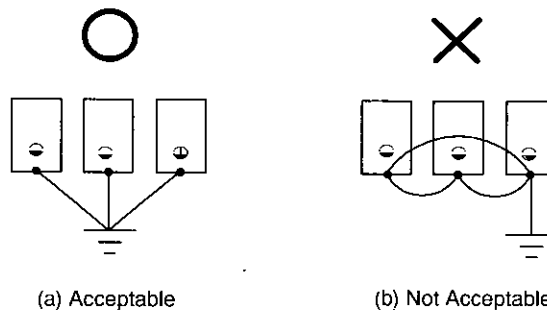
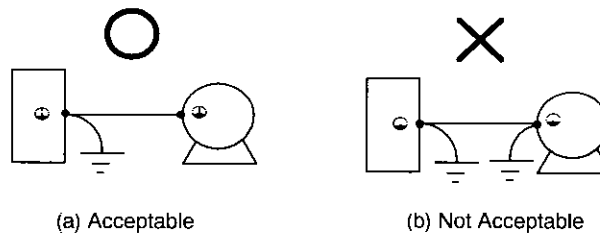

Fig. 11 Grounding
Fig. 12 Grounding of Motor and Inverter
- Ground the units as shown in Fig. 11 (a). Do not loop the ground wires as shown in (b). Fig. 12 (a) shows correct grounding from ground terminals of inverter and motor. Avoid making 2 lines together as shown in (b).